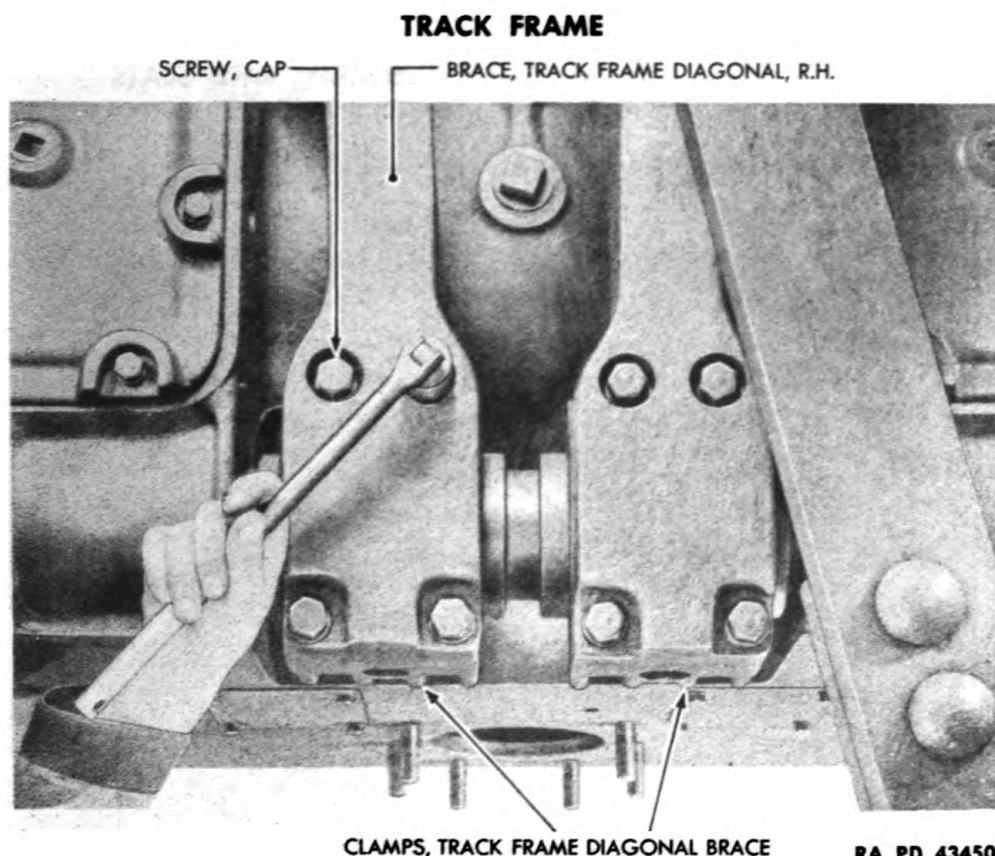

Figure 181 — Track Frame Diagonal Brace Clamp Removal
(3) REMOVE TRACK FRAME DIAGONAL BRACE CLAMP (fig. 181).